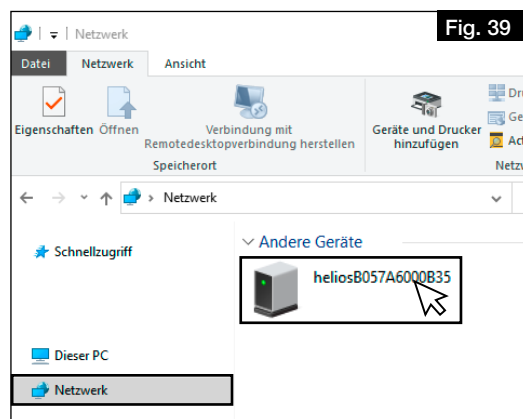

Fig. 39
2. Open desktop and click on Network, cf. Fig. 39.
3. Double-click on the corresponding unit, cf. Fig. 39.